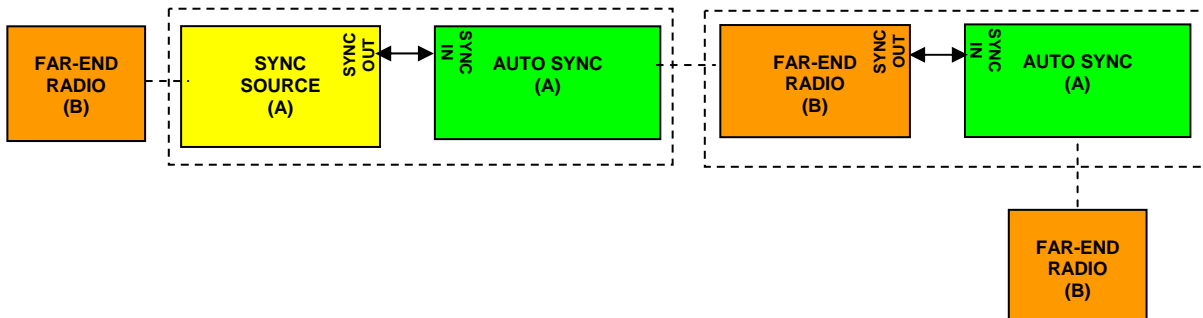

Figure 6 Multiple-link site configuration, using AUTO SYNC for redundancy
The synchronization function can be carried across links to additional collocation sites. For example, Figure 6 illustrates a multi-link backbone with two hub sites.
**Note:** The configuration shown in Figure 6 is not supported in all models at the time of this writing. Consult your Exalt representative for details.